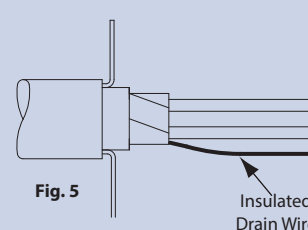

Fig. 5
- 3.4 Spray or paint the drain wires with insulating varnish or paint, then leave to dry (See Fig. 5).